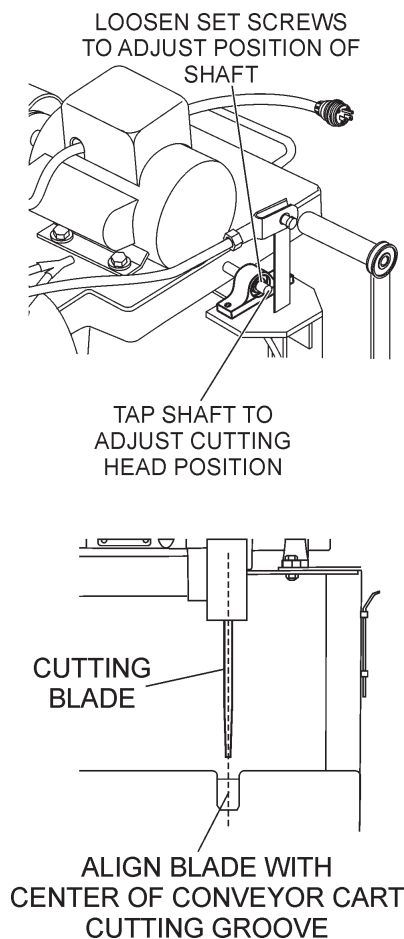

Figure 28. Cutting Head Alignment (Horizontal)
2. Adjust the position of the cutting head horizontally until the blade is positioned within the middle of the cutting groove (Figure 28).